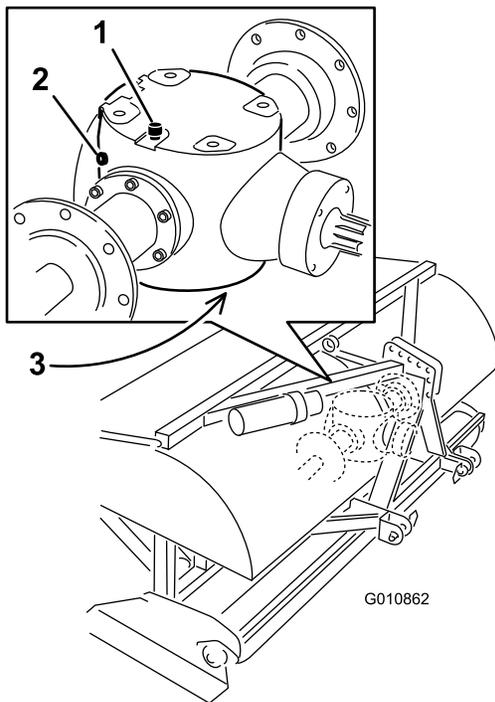

Figure 41
2. Remove the check plug from the gearbox (Figure 41).
3. Make sure oil is up to the bottom of the check plug hole in gearbox (Figure 41).
1. Clean debris from vent/fill plug and drain plug to avoid contamination (Figure 41).